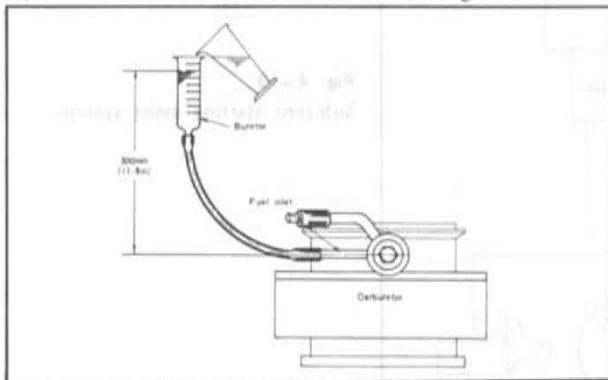

Fig. 4-15 Checking fuel discharge
4. Set the fuel level in the burette at 300 mm (11.8 in) above the fuel inlet, as shown in Fig. 4-15.